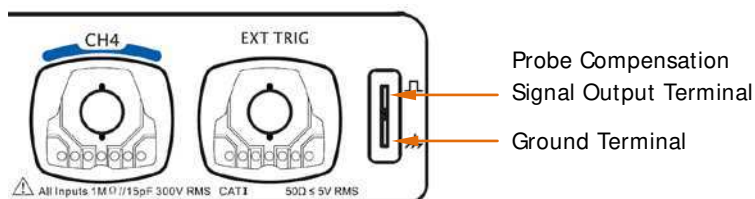

Figure 1-8 To Use the Compensation Signal
2. Connect the ground alligator clip of the probe to the "Ground Terminal" as shown in Figure 1-8.
3. Use the probe to connect the input terminal of CH1 of the oscilloscope and the "Probe Compensation Signal Output Terminal" as shown in Figure 1-8.